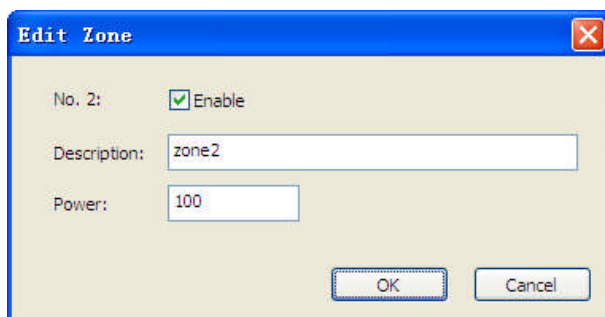

Figure 20 **Edit Zone Window**
1. Click **Add** button on the Group Settings window as shown in the Figure 20, the Add Group window displays.
1. Double-click the zone to edit, the Edit Zone window displays as shown in the Figure 20.